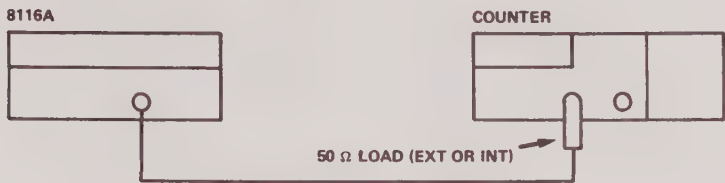

Figure 4–14. Test setup for Duty Cycle
- Connect the equipment as shown in Figure 4–14.